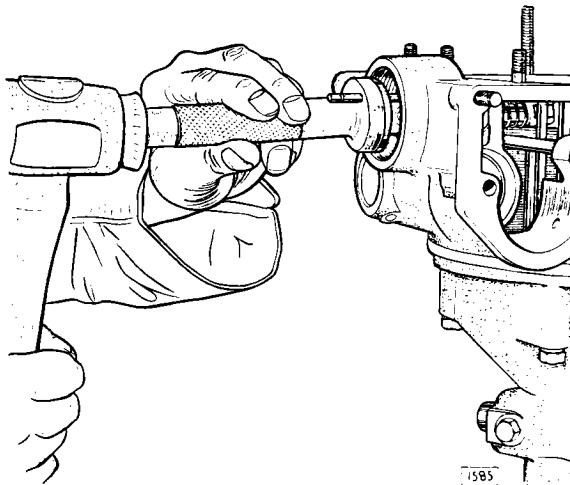

Fig. 40. Replacing the oil pump (Tool No. L.184).
4. Take out the two cheese head screws securing the pump body flange and extract the pump body. A special extractor tool (Fig. 40) is available for this purpose. This screws into the bottom of the pump body in place of the screwed plug.